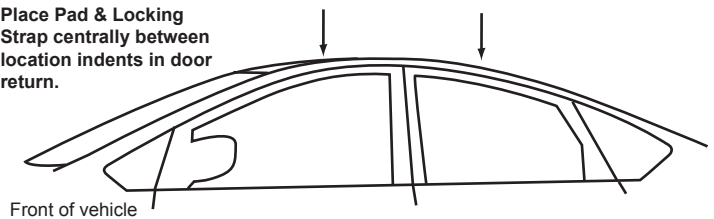

Fig.4
- 4 Open the vehicle doors. Under the door return you will find Strap locating indents (Flatened section in sheet metal- see Fig 3). Place the rubber pads on the vehicle roof above the location indents (Fig 3). The position of the pads are indicated by the moulding marks on the bottom of the pads (Fig 4) as viewed in the driving position.